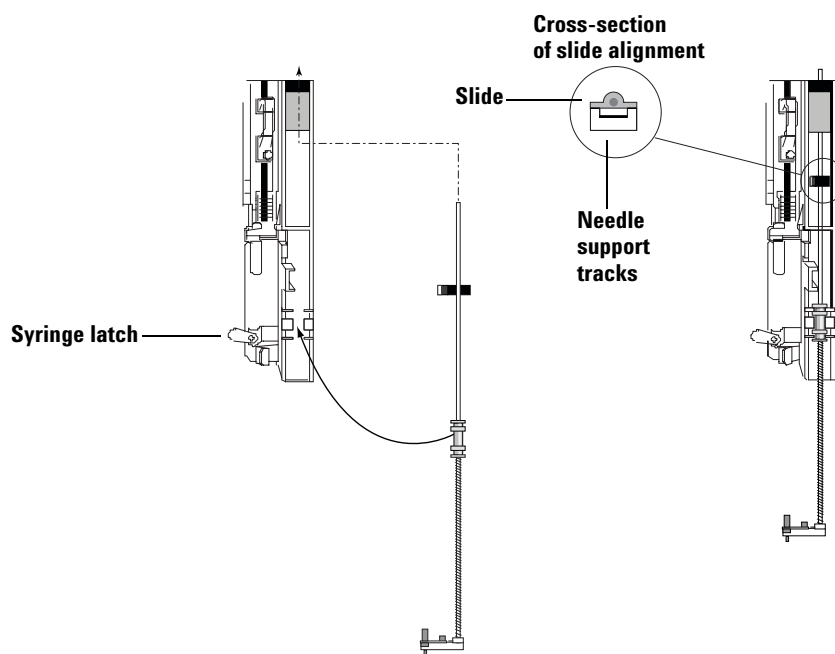

Figure 19 Installing the needle support assembly
- 7 Turn the needle support assembly so that the flat surface of the slide glides up and down the syringe carriage tracks (Figure 19).